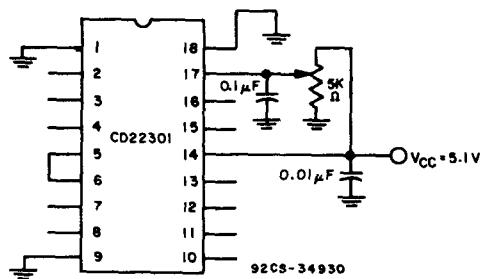

Fig. 4 – Test circuit for impedance measurement.
In operation, a serial string of 16 (17 using the optional flip-flop) bits is fed into the shift register (see Fig. 4 for shift register timing). Ones ("1s") determine an output drive pulse and zeros ("0s") indicate no drive. Any one output enable (EP) line is connected to four selected timers giving the potential for four outputs per one EP pulse with the exception that EP5 connects one timer only. EP lines may be connected to each other.